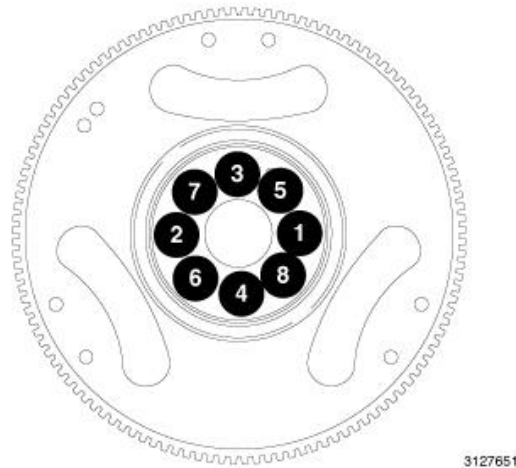

Figure 51 – Flexplate Tightening Sequence
5. Using the tightening sequence shown in Figure 51, tighten bolts to: